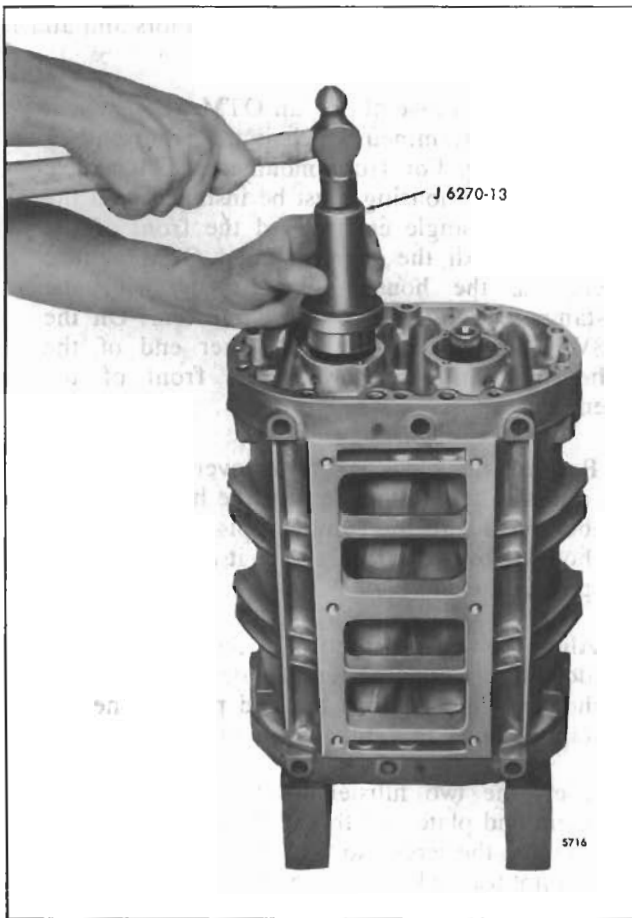

Fig. 16 - Installing Ball Bearings on Rotor Shaft and in Rear End Plate
- b. Place installer J 6270-13 on top of the bearing and tap the bearing straight on the shaft and into the rear end plate as shown in Fig. 16.